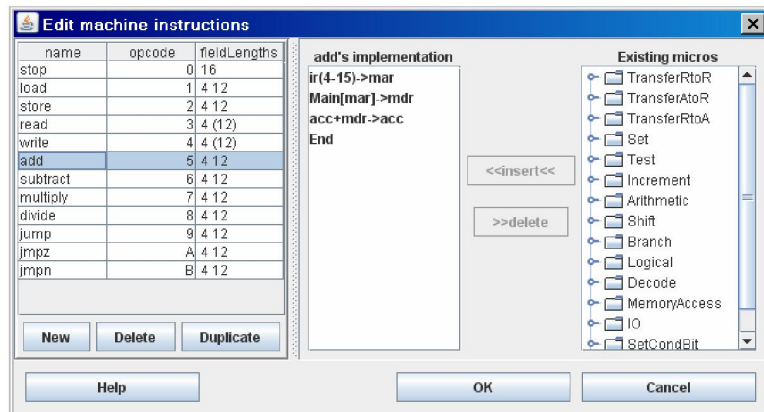

Figure 5: The dialog for editing machine instructions.
2. To create a new machine instruction, click “New” and then edit the parameters of that instruction (see Figure 5). The “Opcode” is a non-negative integer (in hexadecimal) that fits in the first field of the instruction. The “Field Lengths” is a list of 1 or more positive integers whose sum is a multiple of 8.